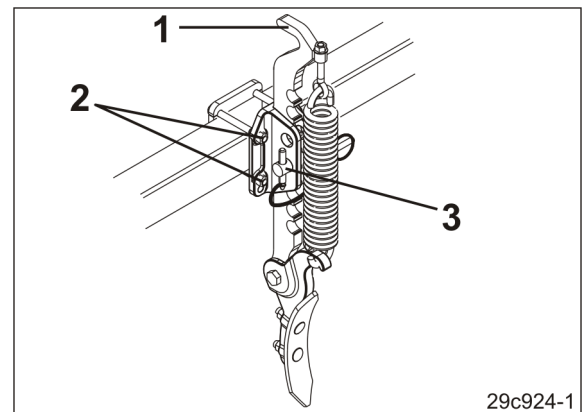

Fig. 184
1. Hold the tractor wheel mark eradicator by the handle (Fig. 184/1).
2. Unscrew the bolts (Fig. 184/2) and adjust the tractor wheel mark eradicator horizontally.
3. Tighten the bolts (Fig. 184/2).
2. Unscrew the pin (Fig. 184/3) and adjust the tractor wheel mark eradicator vertically.
3. After making the adjustment, secure the bolt (Fig. 184/3) with a linch pin.